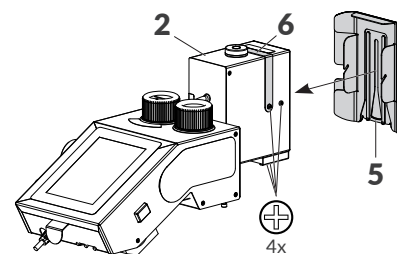

Fig. 15.
8. Select slide **5** for the user's application and a holder of photodetector **6** for the selected slide (**5**) and for the direction in which objects move in front of the face of printhead **2**. Fig. 15 shows an example of slide **5** dedicated to "soft" objects such as cardboard packages.